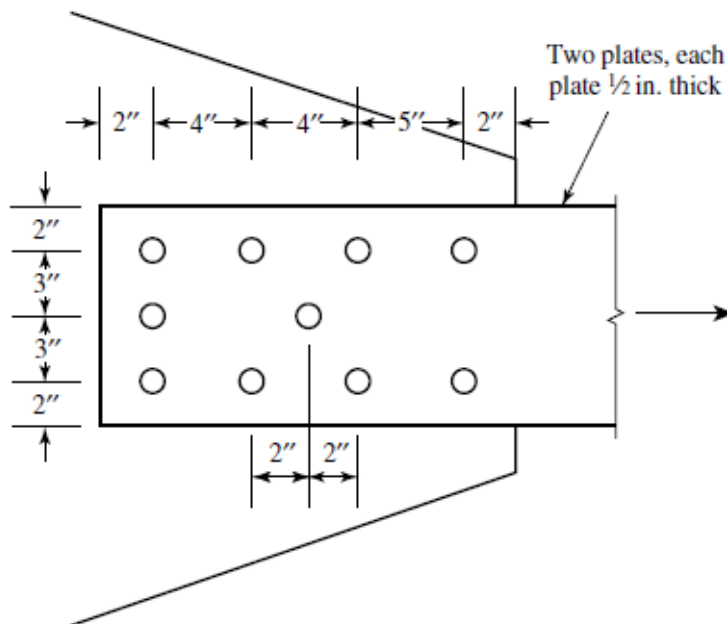

Figure 1
1. A tension member is composed of **two**  $\frac{1}{2}$ "x10" plates. They are connected to a gusset plate with the gusset plate between the two tension member plates, as shown in Figure 1. A36 steel and  $\frac{3}{4}$ -inch-diameter bolts are used. Determine the nominal strength based on the net section.